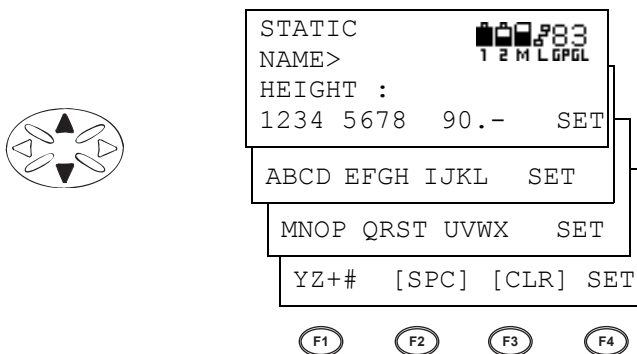

Figure 3-10. Use the Cursor to Scroll through Letter Groups
2. Press the **up/down cursor key** to scroll through the letter groups (Figure 3-10).